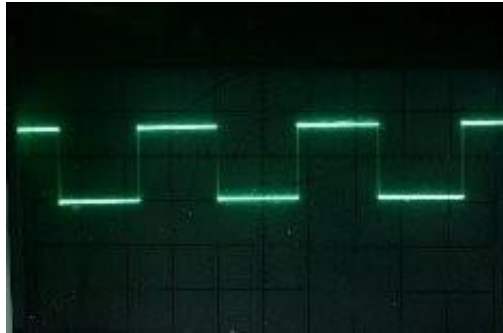

Fig.2 Square Wave 1KHz
3) Be sure the T-1500 MK2 is labeled for the AC voltage of your location (See Figure 2). If it is not, DO NOT connect it to your AC outlet. Please contact your Allnic dealer.